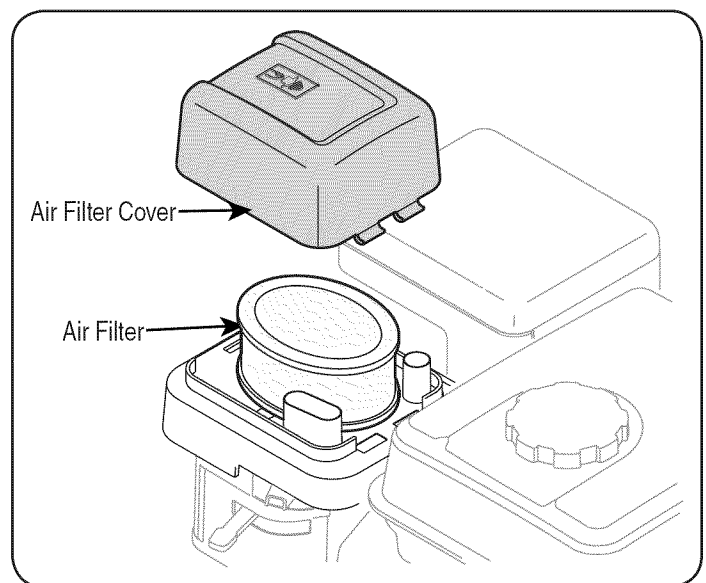

Figure 25
1. Press the tab on the air filter cover and lift the cover. See Figure 25.